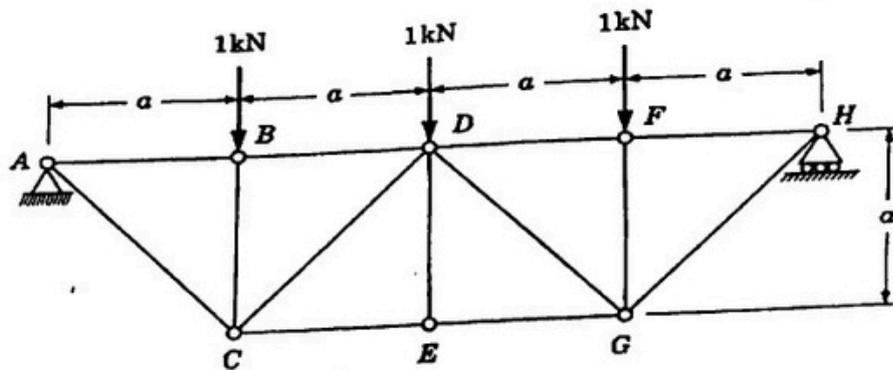

Fig.5.
- Q4 Find the axial forces in the members BD, CD and CE of truss loaded as shown in Fig.5. (10)